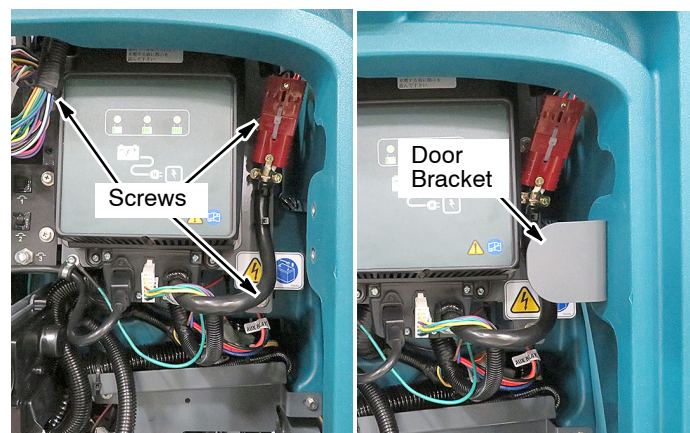

Fig. 12
7. Reinstall the battery charger panel and replace the door bracket (Figure 12).